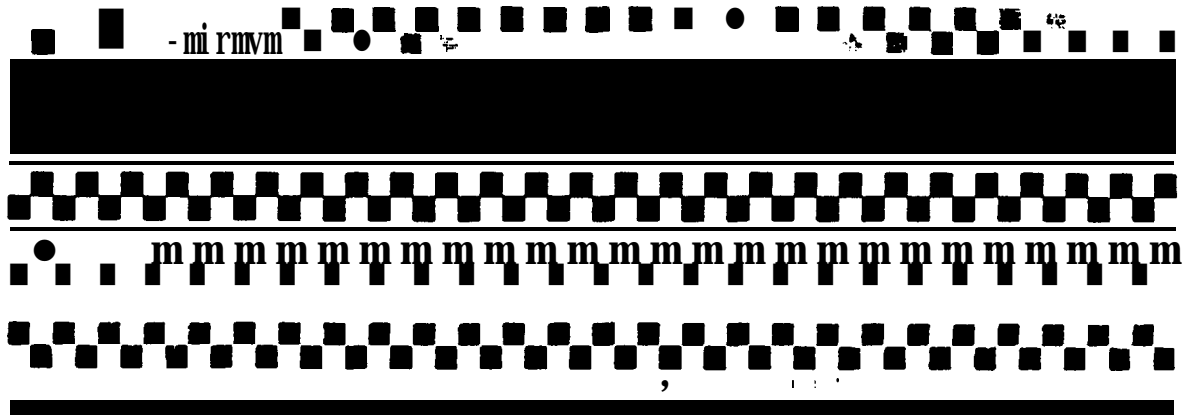

Figure 1
1. To print the test pattern, enter the initial maintenance mode. Press the “0” key one time and then press the “9” key one time. The unit will continue to display “MAINTENANCE” on the LCD and print a test pattern as shown in Figure 1.